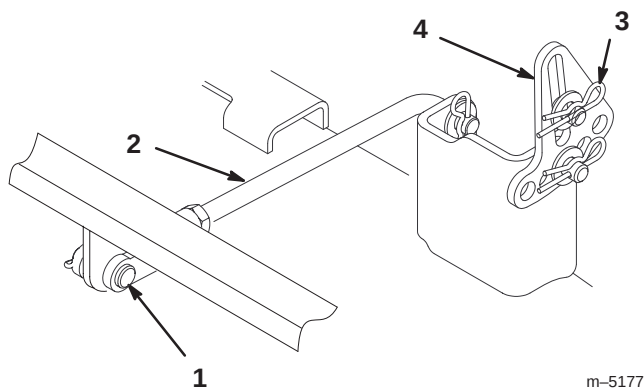

Figure 44
4. Remove the hairpin cotter and clevis pin from the rear trunion rod (Fig. 44) on each side of the mower.
5. Remove the hairpin cotter and washer at the mower leveling brackets (Fig. 44) on each side of the mower. Note which hole the leveling bracket is mounted in for future installation. Slide the brackets off of the mounting pin.
4. Attach the rear trunion rod to the tractor with the clevis pin and hairpin cotter (Fig. 44) on each side of the mower.
5. Slide the leveling brackets onto the mounting pins and secure them with the washers and hairpin cotters (Fig. 44).